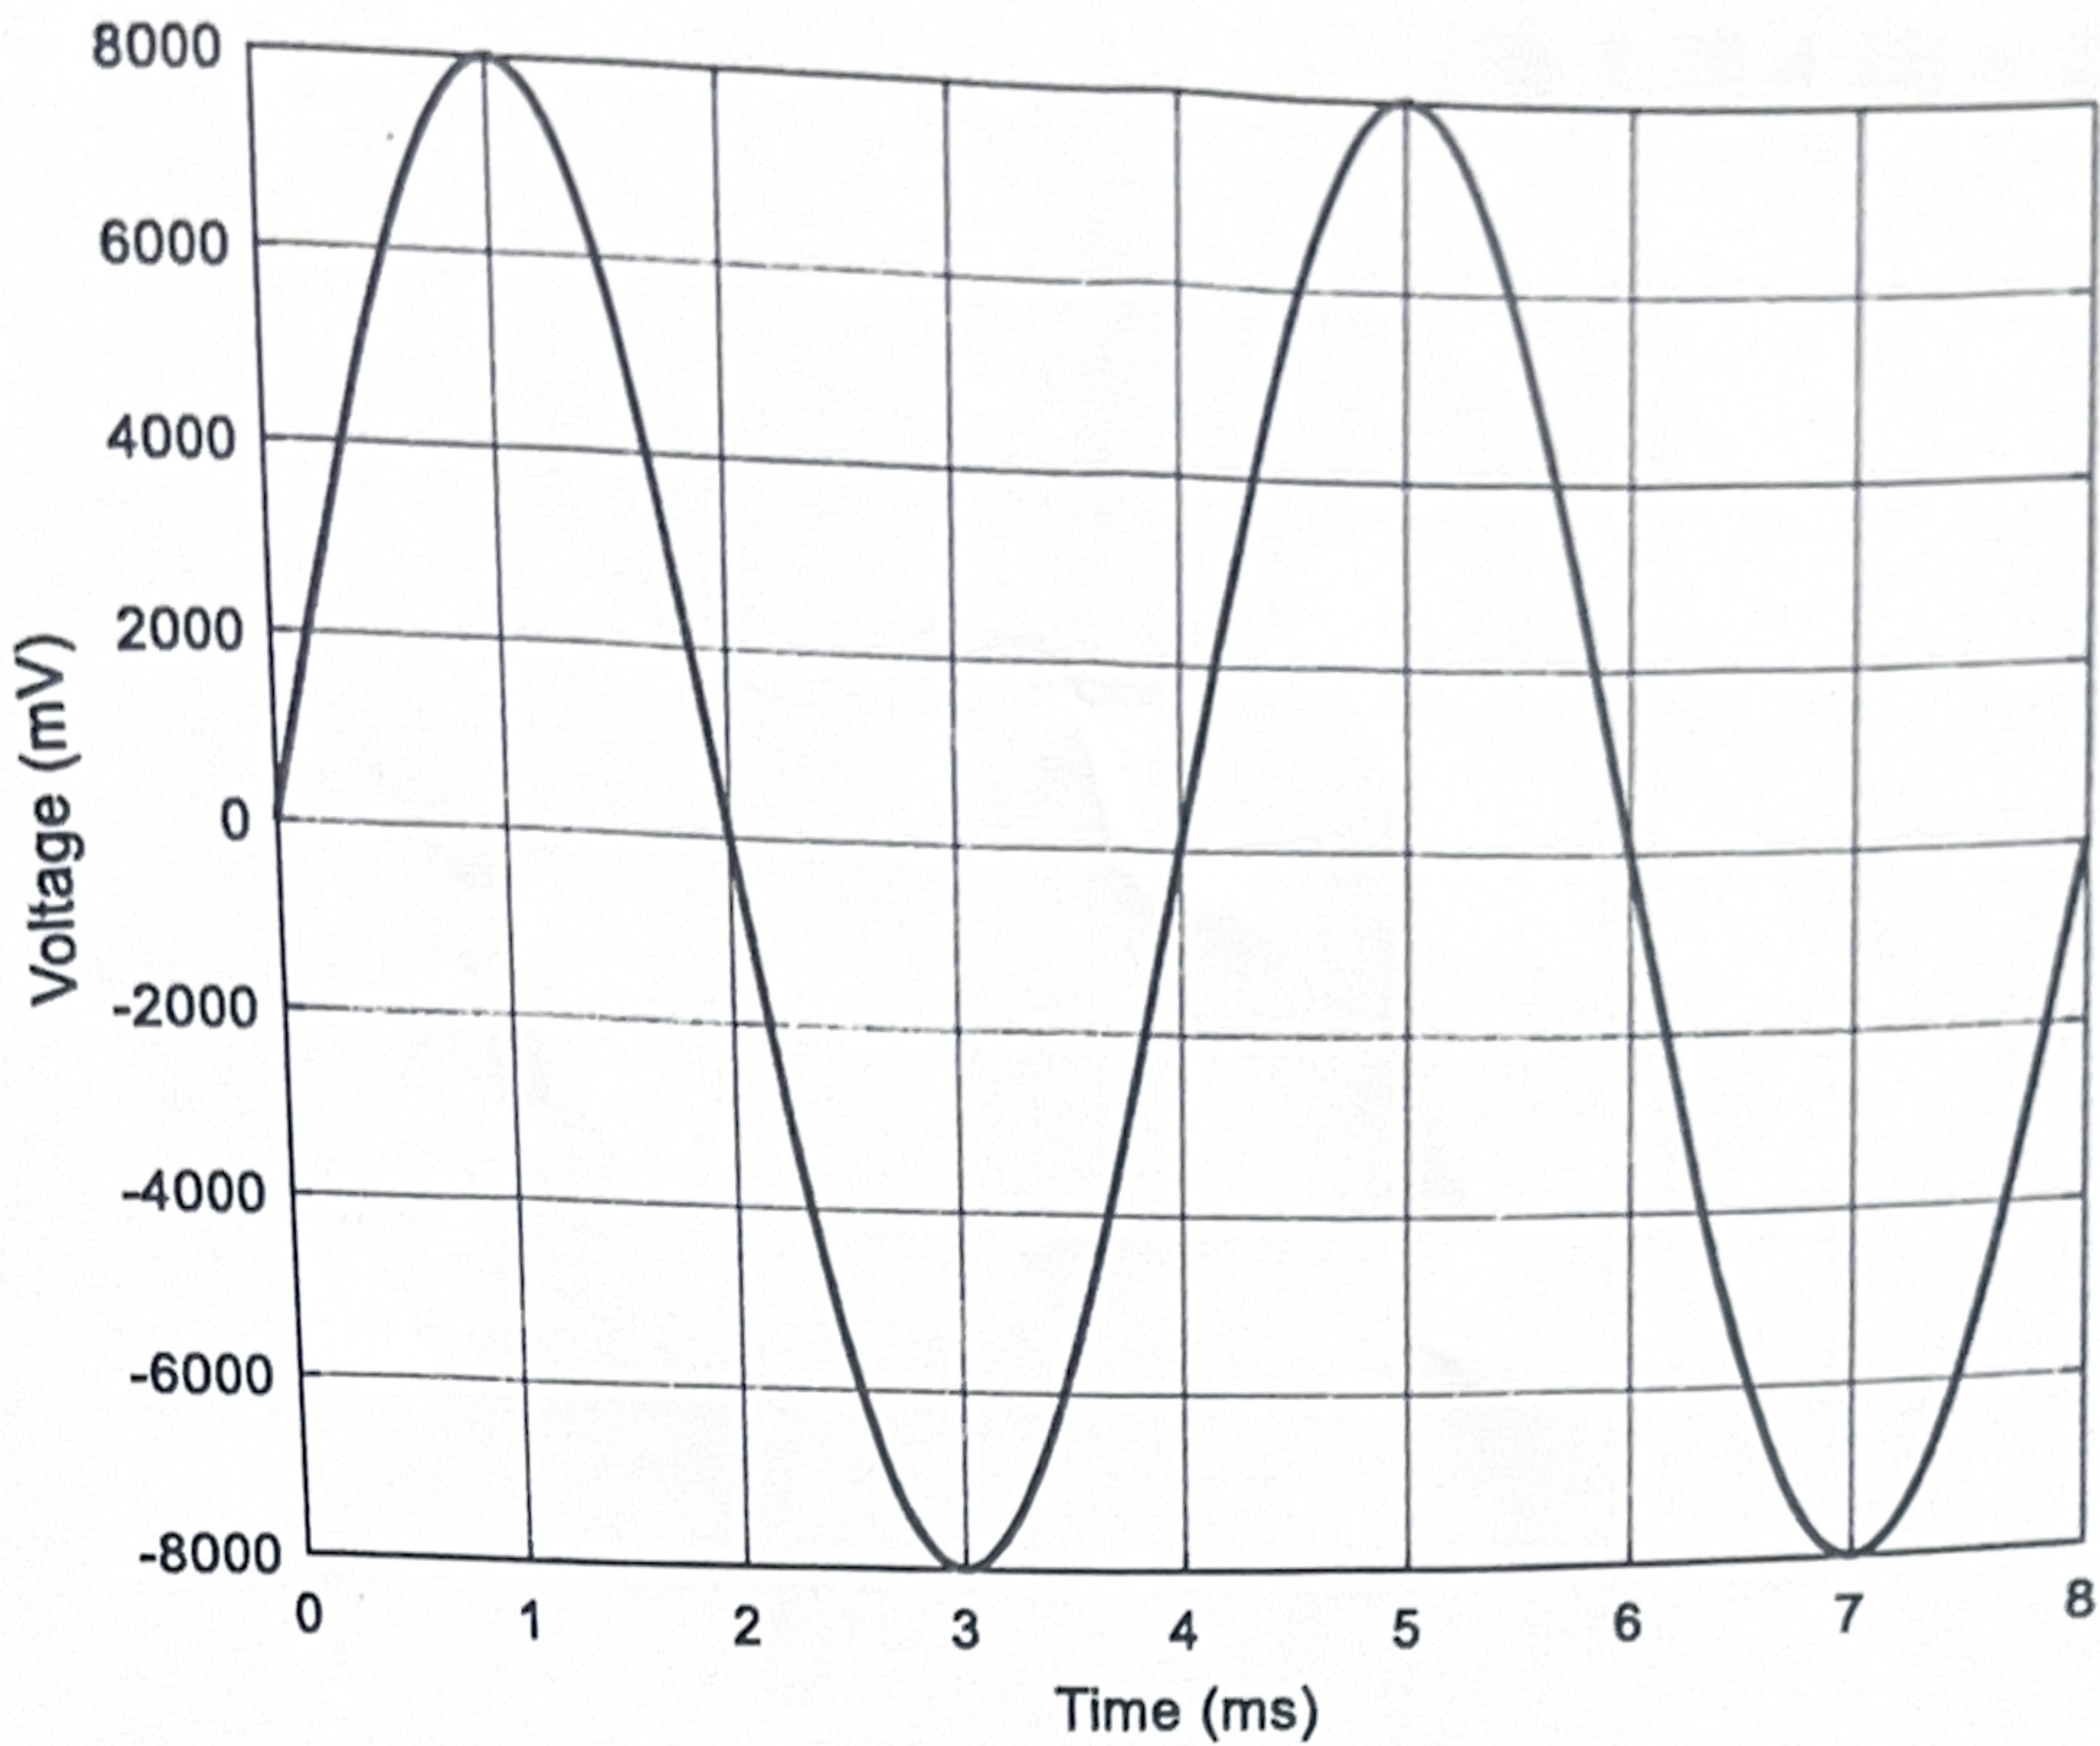

Figure 3: Unit 1 Q
From **Figure 3** and **Table 6**, determine V1 (V)
From **Figure 3** and **Table 6**, determine V2 (V)
From **Figure 3** and **Table 6**, determine V3 (rad/s) (kilo)
From **Figure 3** and **Table 6**, determine V4 (dimensionless)
From **Figure 3** and **Table 6**, determine V5 (dimensionless)